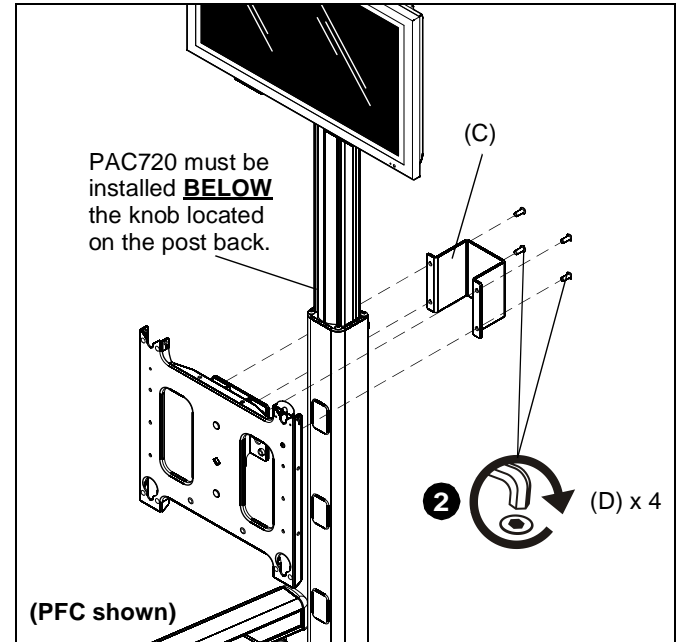

Figure 2
3. To adjust location of display on cart/stand, support display(s) and carefully loosen four 5/16-18 x 3/4" buttonhead cap screws (D) on each faceplate assembly.
4. Slide display(s) up on post to desired position and tighten four 5/16-18 x 3/4" buttonhead cap screws (D) for each faceplate assembly. (See Figures 2 and 4)